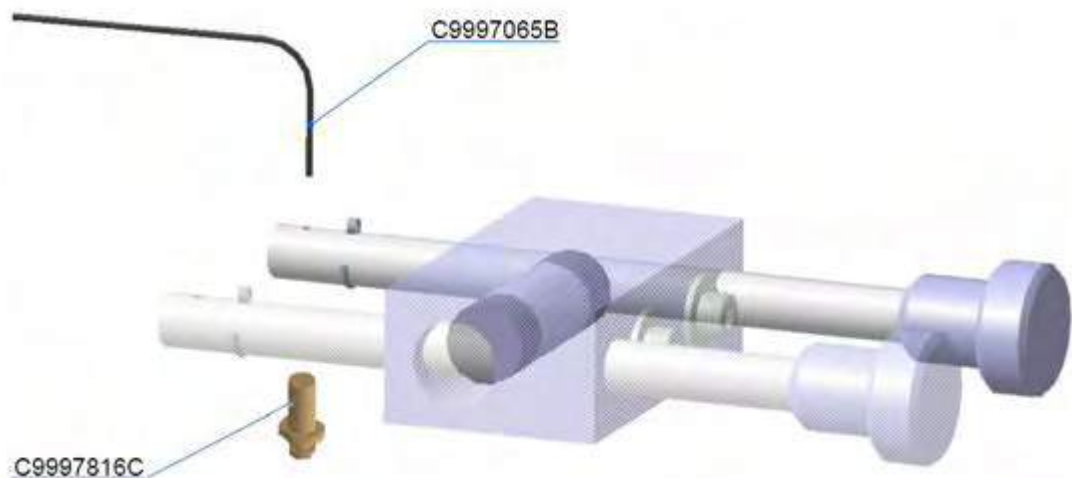

Fig. 1
- Release the cable C9997065B (Steel rope 7x7 1 mm) from C9997816C Cable stop 1806-Z ni. (Fig. 1).